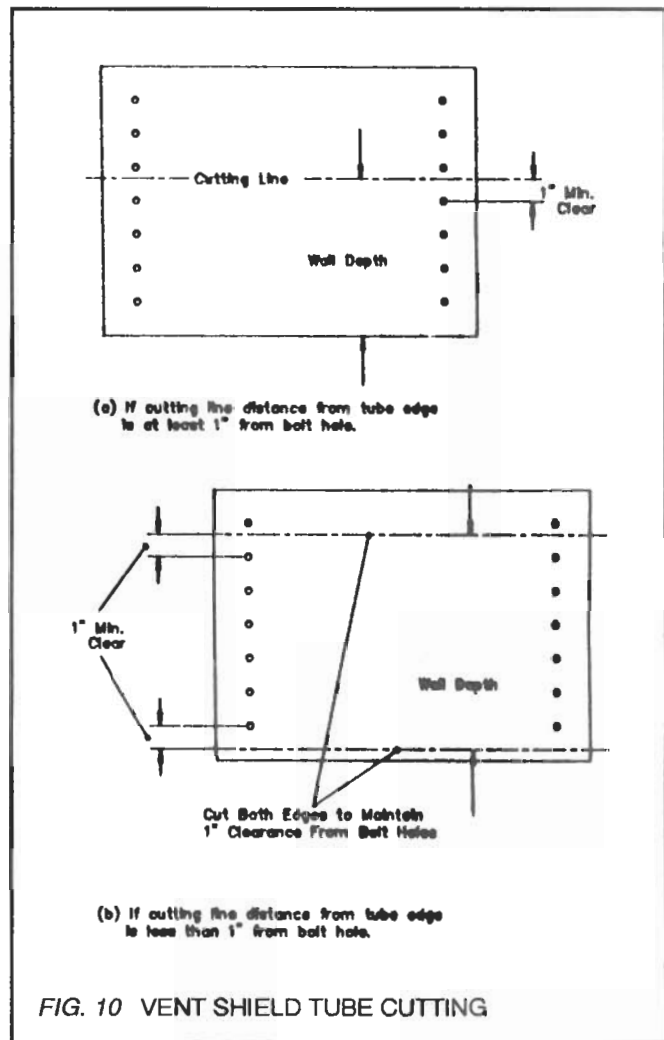

FIG. 10 VENT SHIELD TUBE CUTTING
- 6.6.2.** The tube is supplied coiled around the vent terminal unit. Flatten it and cut exactly to the total wall depth. Make sure that the cutting line is at least 1" away from the nearest bolt hole (see figure 10).